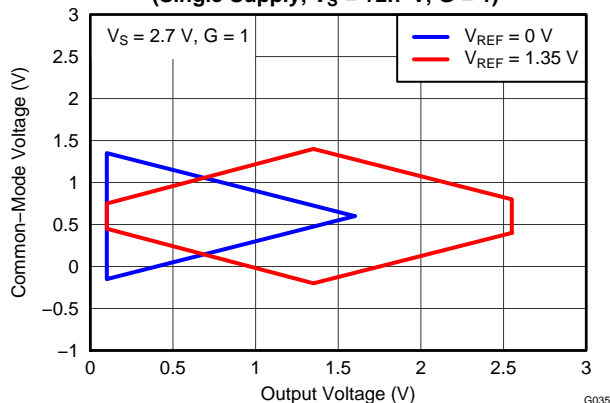

Figure 9.
(1) Total offset, referred-to-input (RTI): $V_{OS} = (V_{OSI}) + (V_{OSO}/G)$.
(2) Input voltage range of the INA826 input stage. The input range depends on the common-mode voltage, differential voltage, gain, and reference voltage. See Typical Characteristic curves Figure 9 through Figure 16 and Figure 41 through Figure 44 for more information.